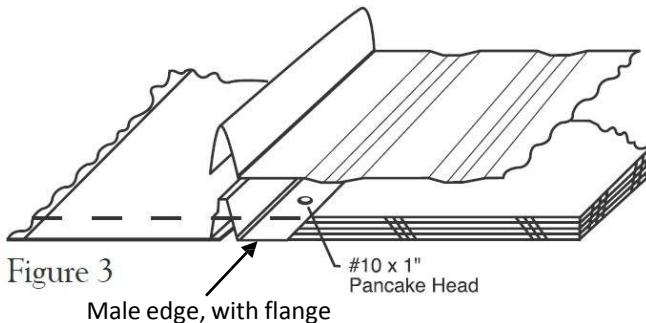

Figure 3
4. Line up the next panel's female edge with the first panel's male edge (Figure 3) and extending 1" beyond eave trim.